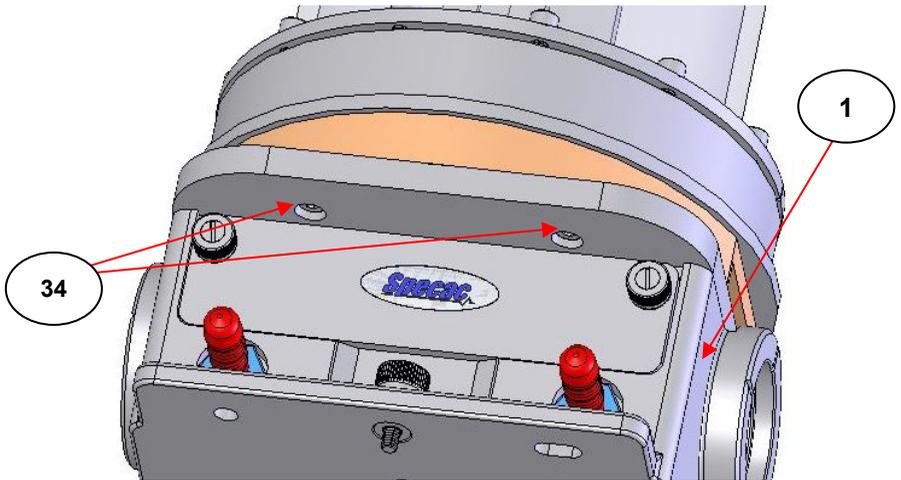

Fig 22. Front View of Cyclone™ C10 Gas Cells Showing Fixing Screws (34) to the Optical Unit (1)
The procedure to separate the C10 gas cell from its optical units is the same as for the C5 size gas cell, except that the two front fixing screws (34) of the four are accessible **without** the need to remove the front cover plate (4). (See Fig 22.)